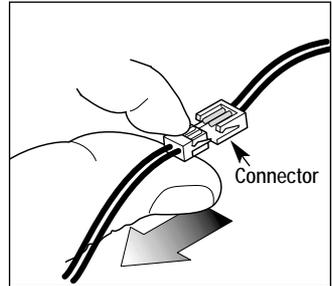

Figure 5. Wire connector separation
2. Reach into the car and unplug the wire connector. The wire connector is found towards the end of the car with the smaller windows. As illustrated in Figure 5, be sure to pull on the white connector housing, not the wires.